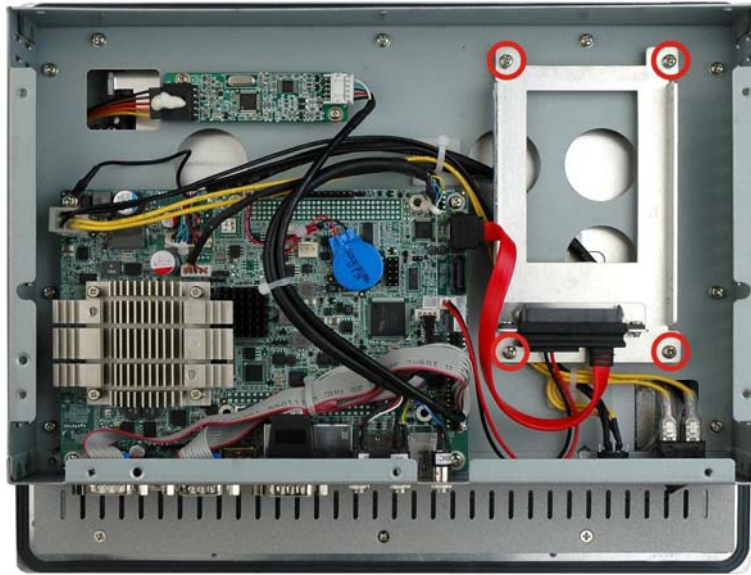

Figure 3-15: PPC-3710A-N26 HDD Bracket Retention Screws
Step 2: Remove the HDD bracket from the PPC-3710A-N26. The HDD bracket is attached on the panel PC with four retention screws inside the chassis (Figure 3-15). Remove the four retention screws and lift the bracket off the panel PC.